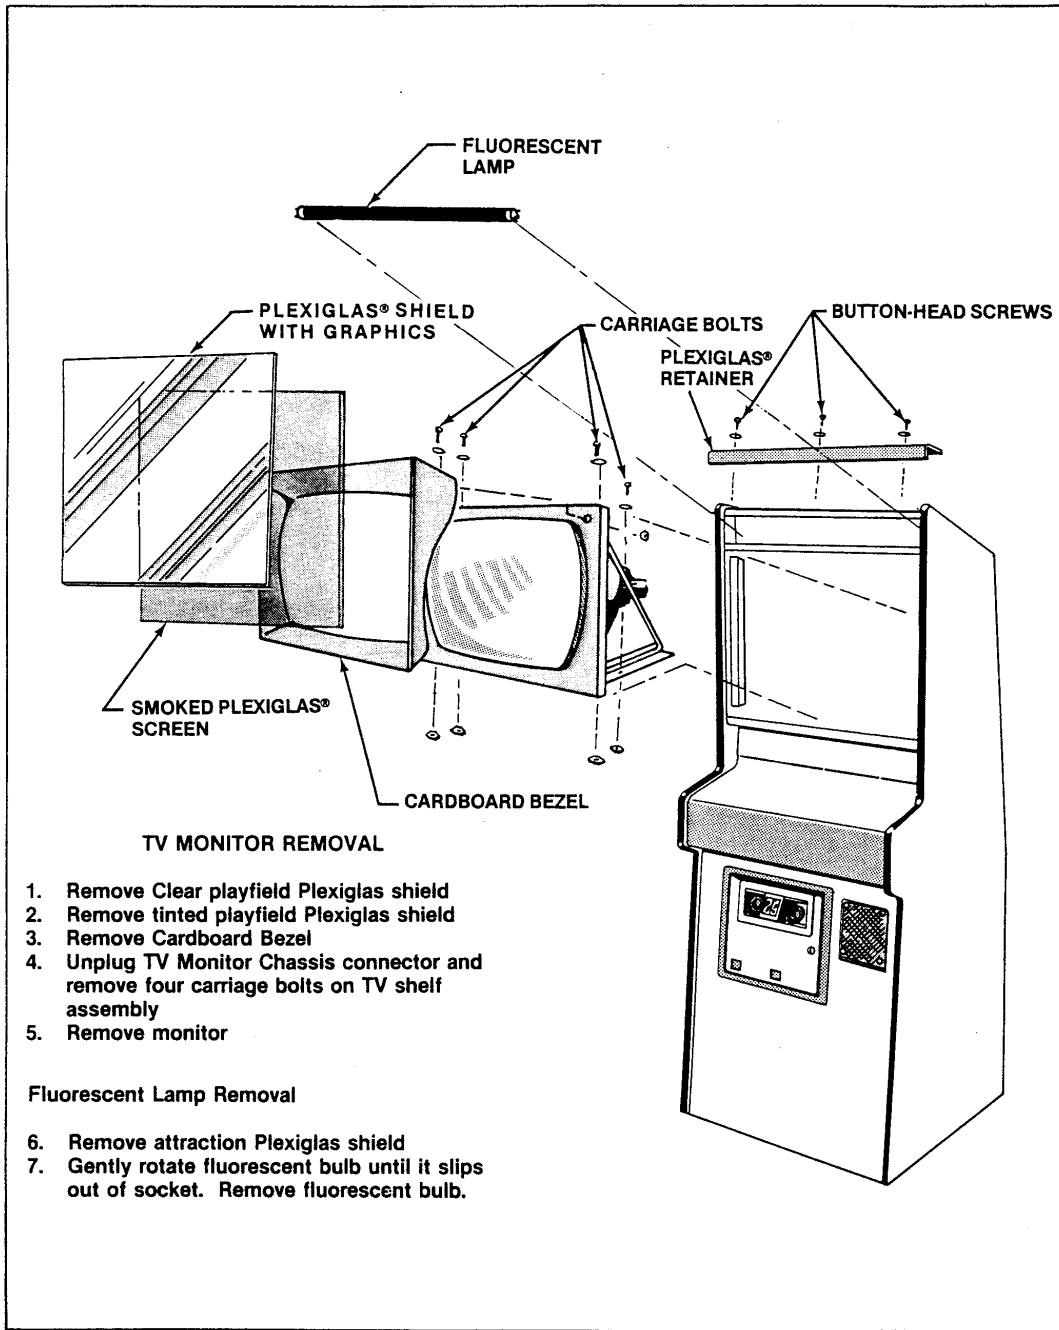

Figure 3-10 TV Monitor and Fluorescent Lamp Removal
The monitor's adjustments function like those of a conventional, home television set, except that the volume adjustment has no effect. Instead, the game produces its sound in circuits separate from the TV monitor. Figure 3-10 shows the location of the adjustments on both TV monitors used by Atari. Your game contains a TV monitor manufactured to Atari
D. TV MONITOR REMOVAL (See Figure 3-10)
(See Figure 3-10)